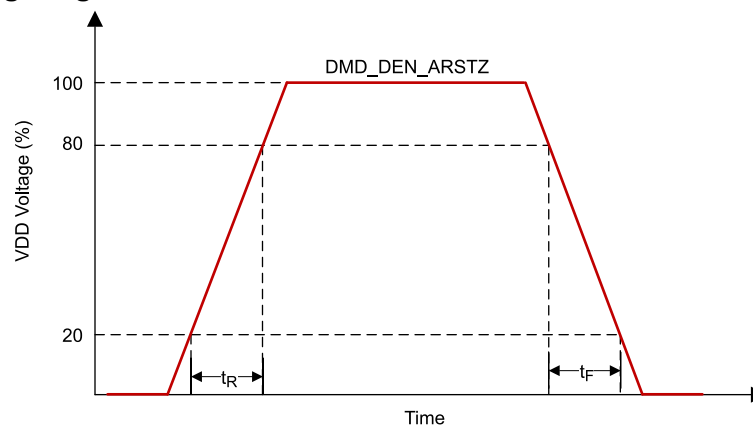

图 6-2. LPSDR Input Rise and Fall Slew Rate
(1) Specification is for DMD_DEN_ARSTZ pin. Refer to LPSDR input rise and fall slew rate in 图 6-2